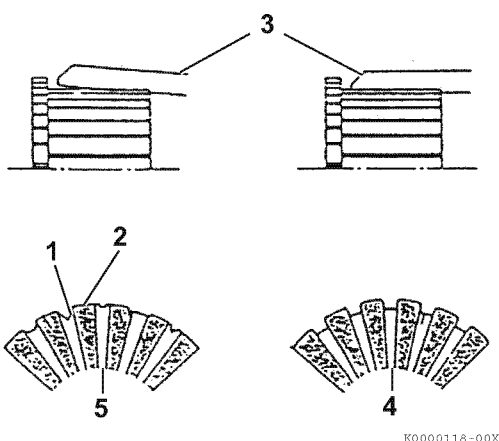

Figure 10-14
Measure the depth of the insulating material (Figure 10-14, (1)) between commutator segments (Figure 10-14, (2)). If the depth measures less than the limit, use a hacksaw blade (Figure 10-14, (3)) to remove the insulating material until the depth is within the limit. See *Starter Motor Specifications on page 10-5 for service limit*.
A normal commutator condition is indicated in Figure 10-14, (4). An abnormal commutator condition is indicated in Figure 10-14, (5).